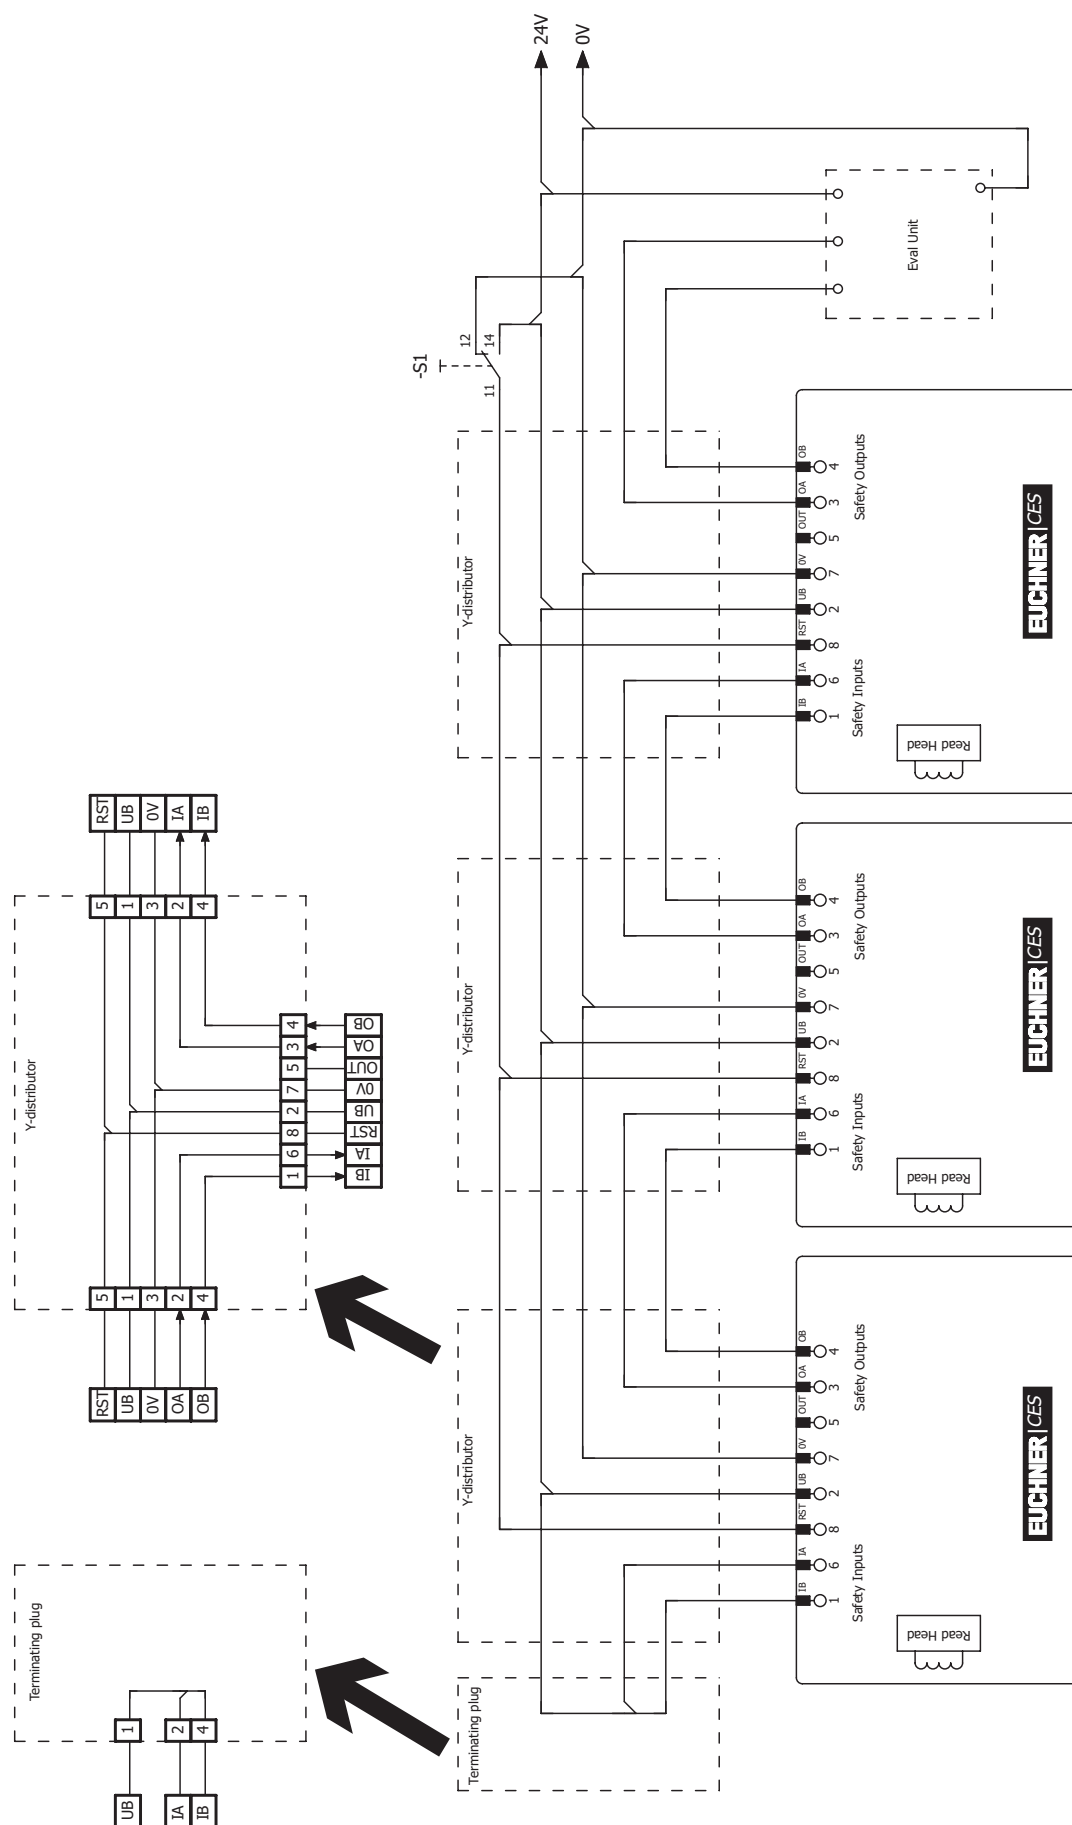

Fig. 4: Connection example for series connection with reset and changeover switch
- › A common signal must be used for all switches in the chain. This can be a changeover switch or the output of a control system. A pushbutton is not suitable because the reset must always be connected to GND during operation (see switch S1 in *Fig. 4 on page 18*).
The RST input must be connected as shown in *Fig. 4 on page 18* to permit this.